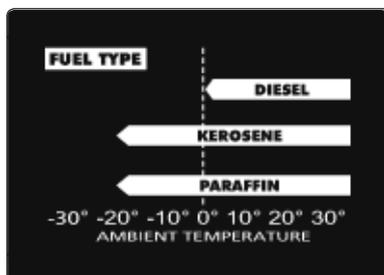

**Fig.8**
6. Improper electrical connection between Printed circuit board and Photocell	6. Check wiring connections Fig.8